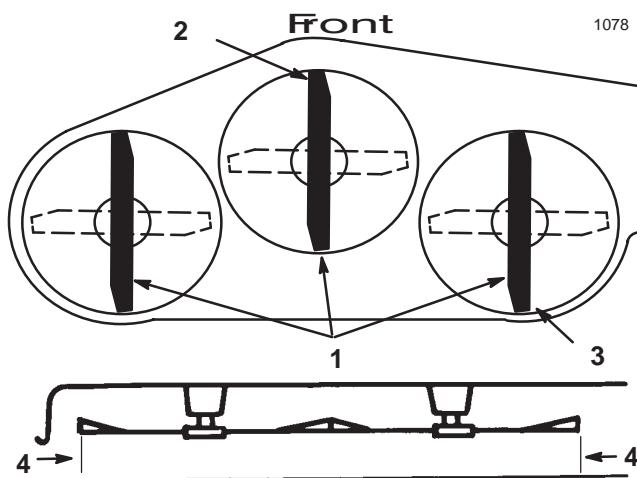

Figure 9
3. Carefully rotate blades so they are facing front and rear (Fig. 9).
4. Measure between the tip of the front blade (Fig. 9) and the tip of the rear blade to the flat surface. If the front blade tip is not 1/8–1/4 in. (4–7 mm) lower than the rear blade tip adjust rear adjustment link.